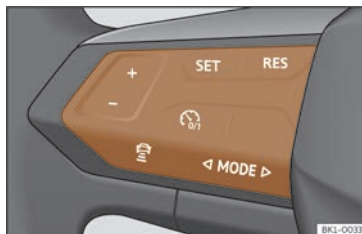

Fig. 103 On the multifunction steering wheel: buttons to operate the ACC
- To start regulation, press the button **SET** >>> Fig. 103.
»» **Fig. 103** buttons to the desired speed. The speed is adjusted at intervals of 10 km/h (5 mph).
- Press the button  and then the button + or –»» **Fig. 103**.